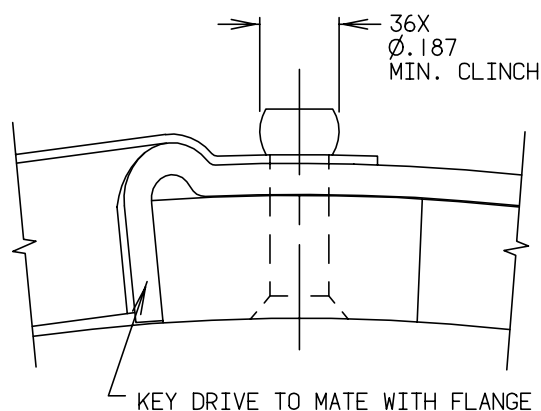

Figure 1
- A. Using one .125 dia. Cleco, fasten a 157-01900 Heat Shield, one 205-04400 Drive Key and one 157-01600 Heat Shield Clip to the inner wheel half as shown in Figure 1.